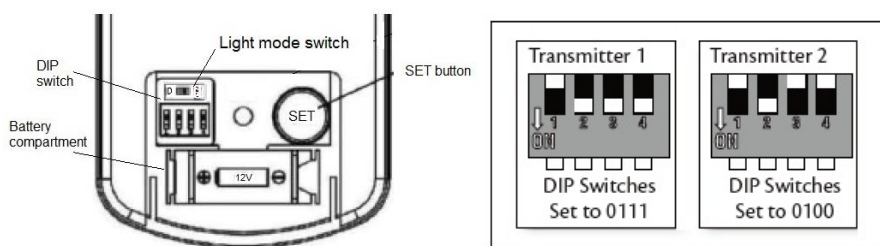

Figure 18 – Remote Control Settings – 2 or More DC Fans
- Change the position of the DIP switches in the remote transmitter 1, so that it will be different to transmitter 2. Refer to Figure 18 below.